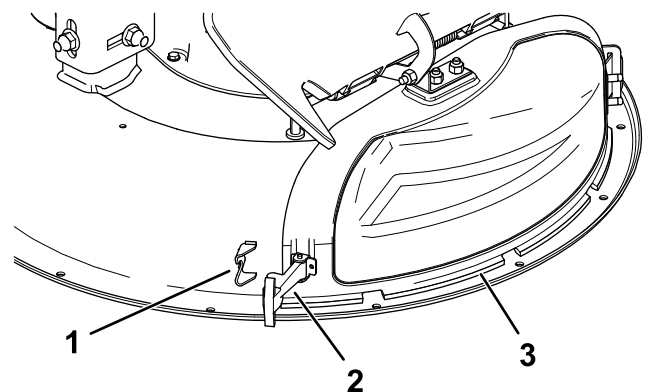

Figure 12
3. Release the flexible latch from the latch retainer on the discharge cover and pivot the discharge cover to the right (Figure 12).
- Secure the discharge cover to the deck by hooking the flexible latch on the discharge cover into the retainer on the deck (Figure 12).